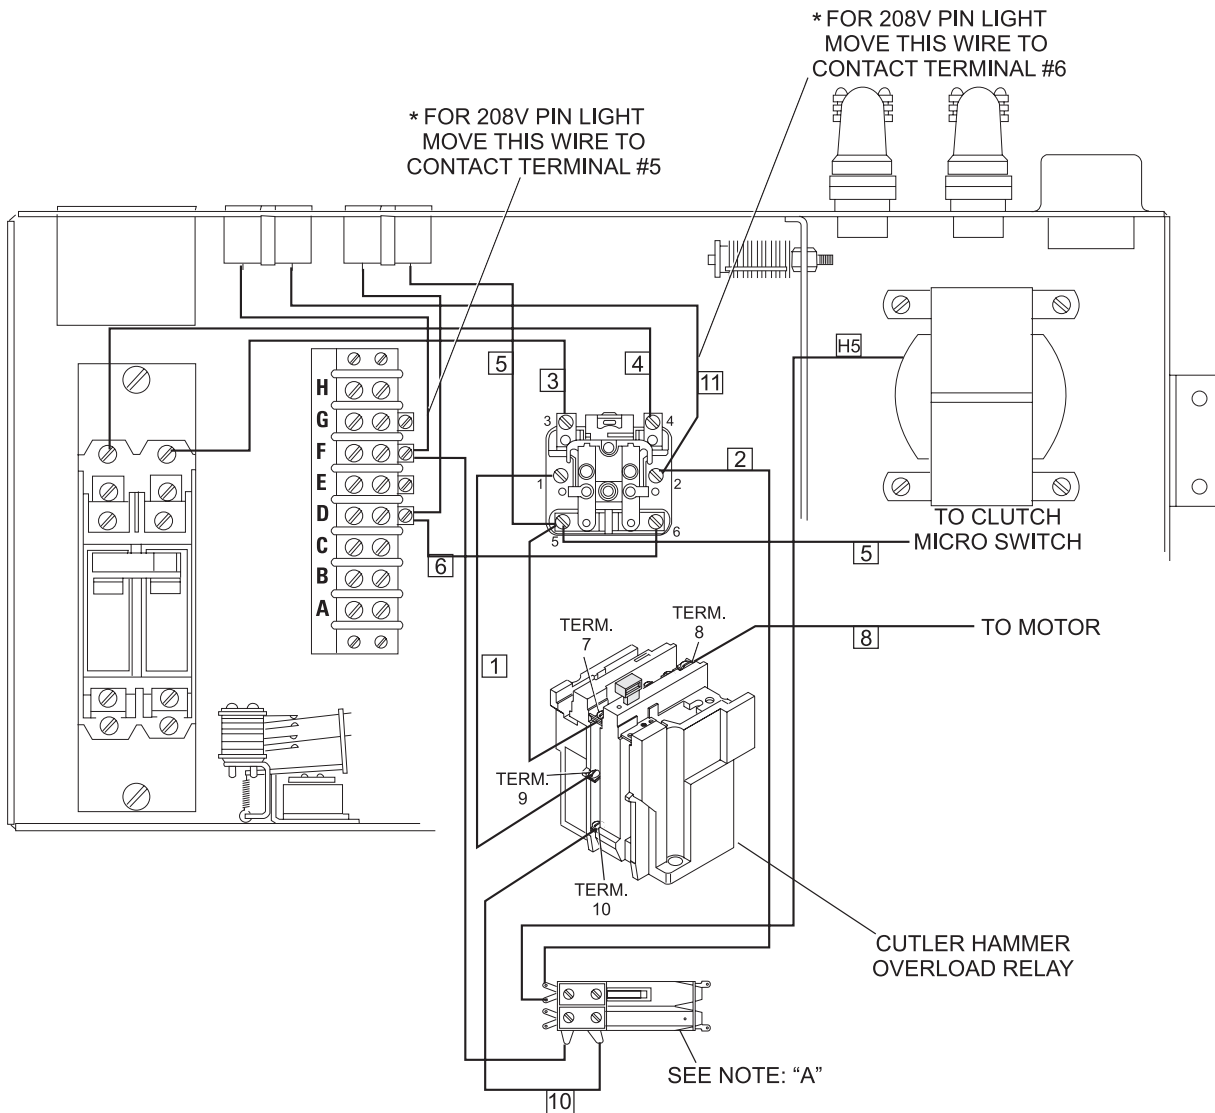
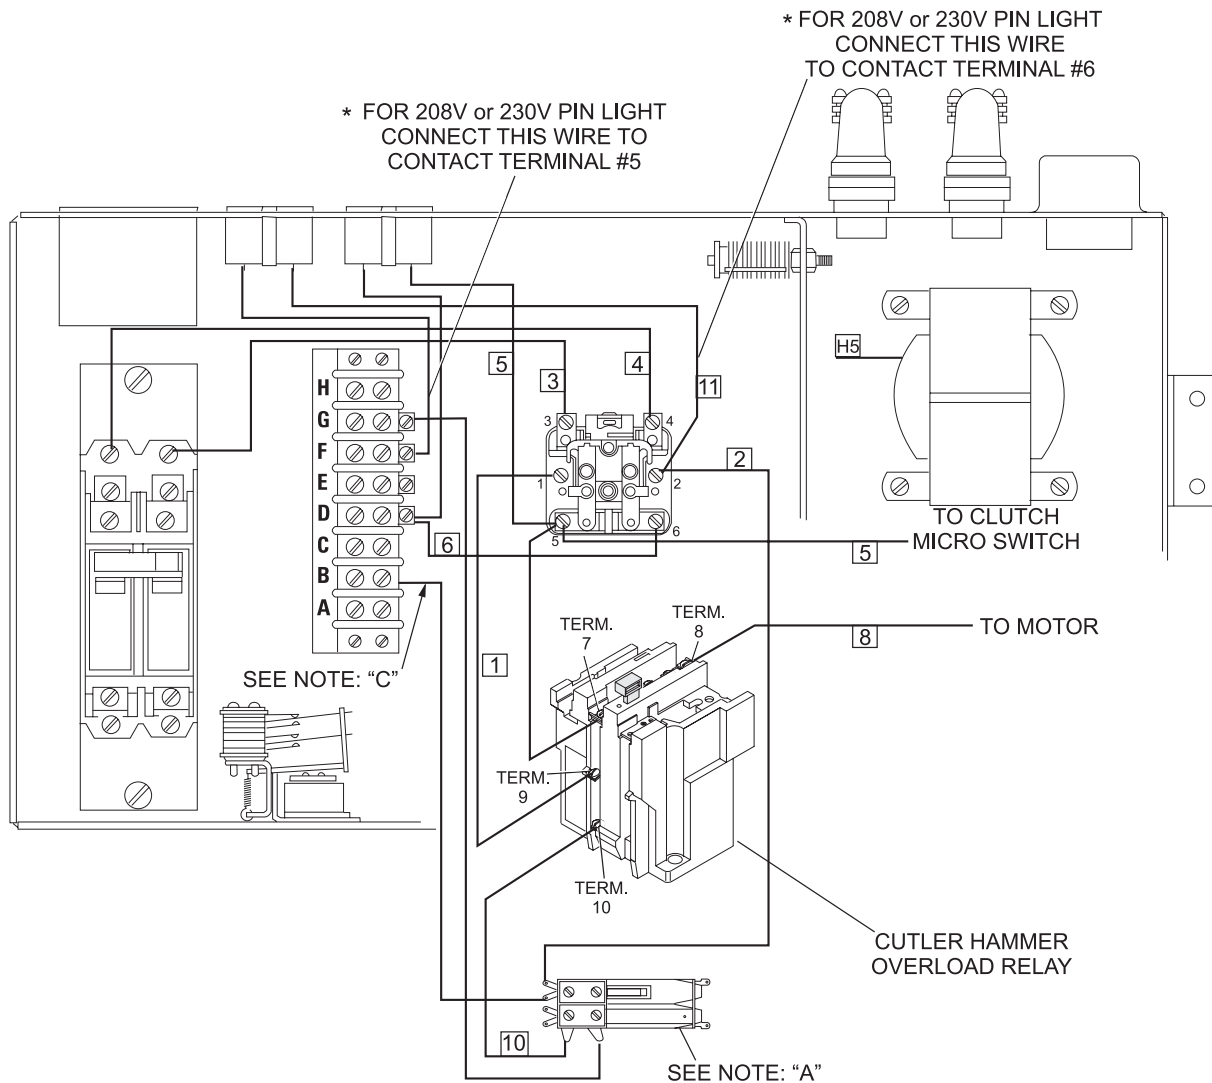

Figure 12
Figure 14
15. Connect the remaining numbered wires to the appropriate terminals. Refer to *Figures 12, 13, or 14*.
20. Refer to *Figures 12, 13 & 14*, for typical wiring diagrams of the new contactor installations. Refer to *Figures 12 & 13* for installation after replacement of the “Allen Bradley” contactor. Refer to *Figure 14* for installation after replacement of the “Federal Pacific” contactor. For exceptions, refer to Notes “A” and “B”. Check wiring before applying power.
208 volt pinsetter with 115 volt pinlight. For 208 volt pin light refer to * Figure 12.
208 or 230 volt pinsetter with 115 volt pinlight. For 208 or 230 volt pin light refer to * *Figure 14*.